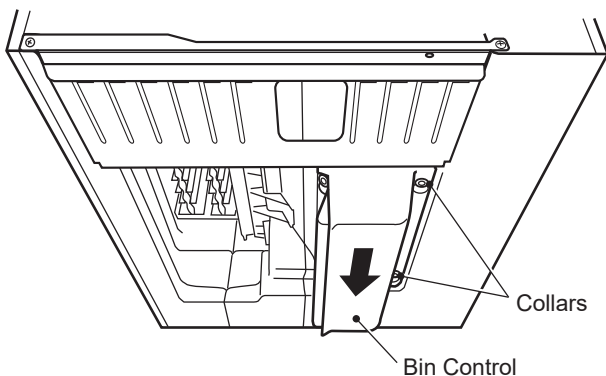

Fig. 6
7) While pulling up the bin control lead, hook the bin control on the right side interior wall. Then push the bin control up against the bottom of the unit, and slide to the back until it snaps in place. Make sure the slotted holes at the right side of the bin control are securely placed on the collars at the bottom of the unit. See Fig. 6.